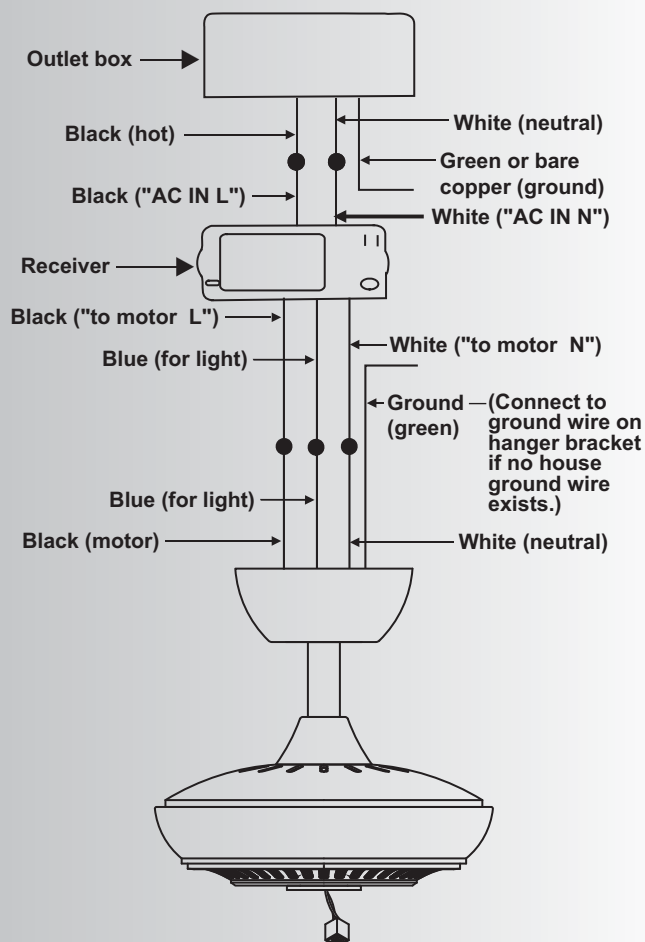

Fig. 14
Step 2. Motor to Receiver Electrical Connections: (Fig. 14) Connect the black wire from the fan to the black wire marked "TO MOTOR L" on the receiver.
Step 3. (Fig. 14) **Receiver to House Supply Wires Electrical Connections:** Connect the black (hot) wire from the ceiling to the black wire marked "AC in L" from the receiver. Connect the white (neutral) wire from the ceiling to the white wire marked "AC in N" from the Receiver. Secure the wire connections with the plastic wire nuts provided.
Step 4. (Fig. 14) If your outlet box has a ground wire (green or bare copper) connect it to the fan ground wires; otherwise connect the hanging bracket ground wire to the mounting bracket. Secure the wire connection with a plastic nut provided. After connecting the wires, spread them apart so that the green and white wires are on one side of the outlet box and black and blue wires are on the other side. Carefully tuck the wire connections up into the outlet box.